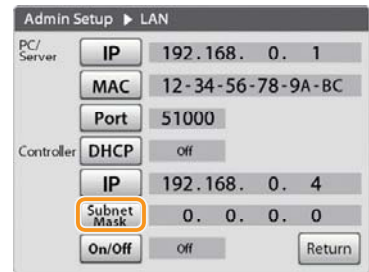

Figure 3-111
1. Tap [Subnet Mask] of [Controller]. (Figure 3-111)